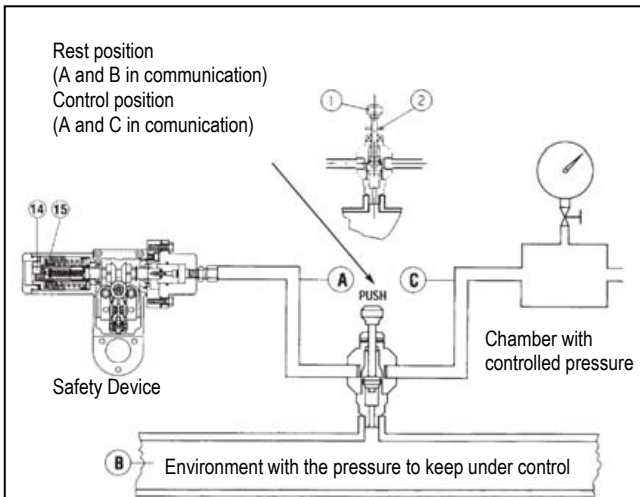

fig. 22
- A) For slam-shuts connected to the downstream piping by a three-way deviator push valve 11, proceed as follows (fig. 22):